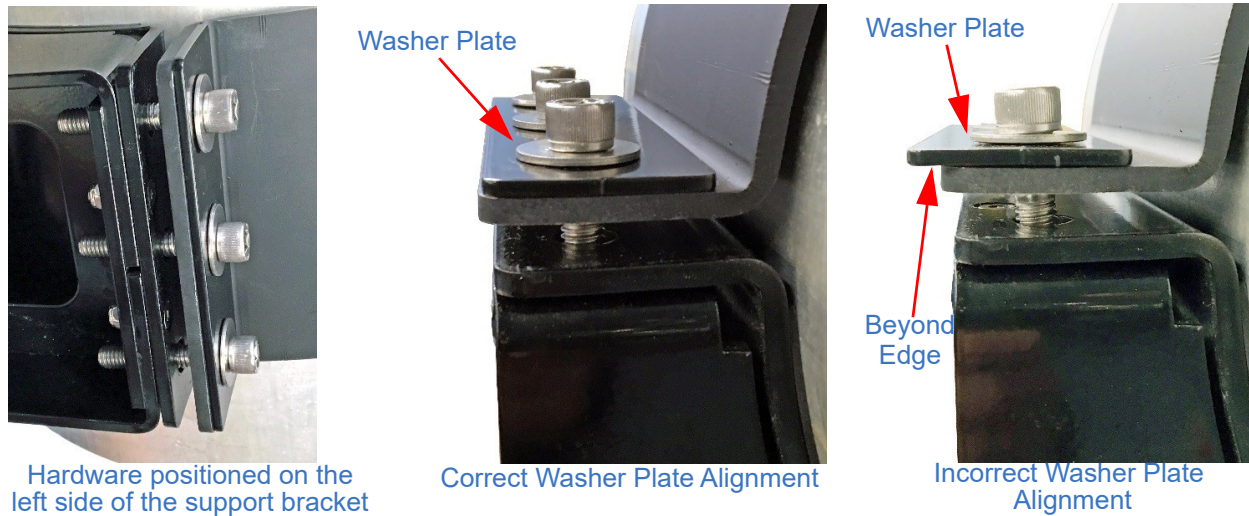

Figure 5-7 Hardware Positioning and Alignment
- On the left side of the external support bracket, align the hardware from outside in as follows (Figure 5-7):
- d. The washer plate should be aligned so that its outside edge is flush with the outside edge of the support bracket clamp (Figure 5-7). If the outside edge sticks out beyond the edge of the support bracket clamp (Figure 5-7), it is installed backwards and needs flipped.